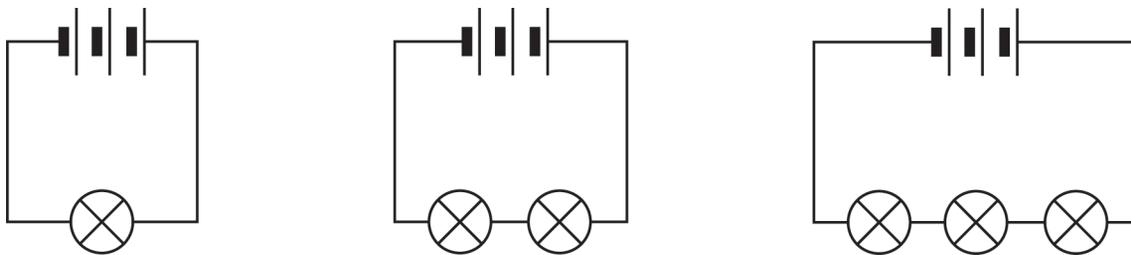

Figure 3: Bulbs connected in series
1. The diagrams in Figure 3 show you the circuits you are going to build. Before you build them, write down your predictions of how bright the bulbs will glow on the diagrams using brackets as you did before. Then connect the components and test your predictions.